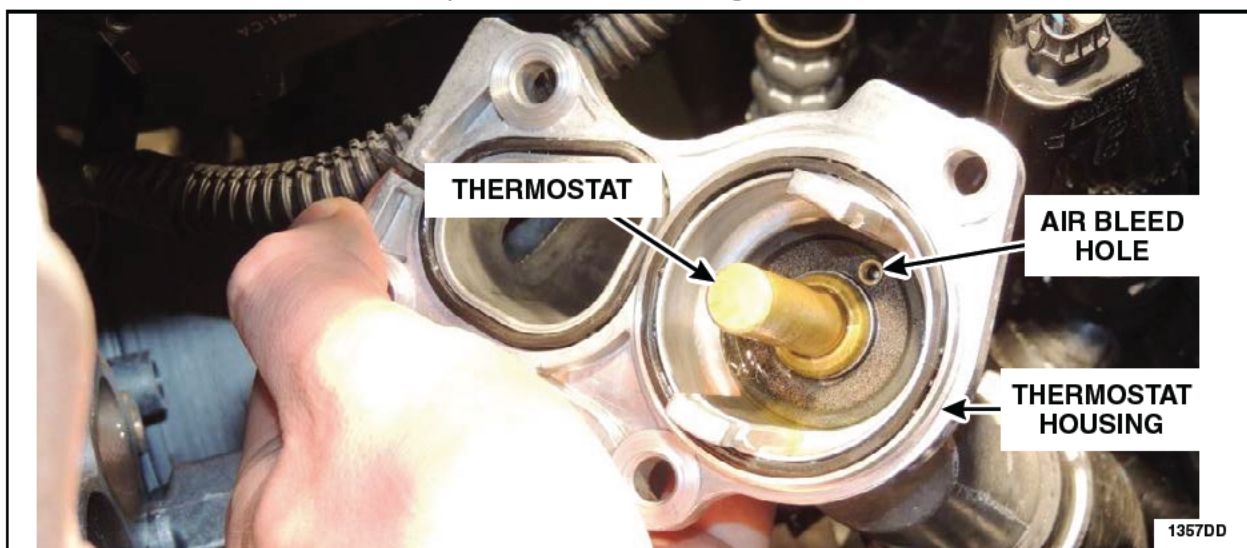

FIGURE G2
3. Remove and discard the thermostat. See Figure G2.
4. Position the *new* thermostat into the housing with the air bleed hole positioned upward. Use a 13 mm (1/2 in) deep well socket to install the thermostat spring and clip. The retaining clip must be in the same orientation that it was in prior to removal. See Figures G2 and G3.